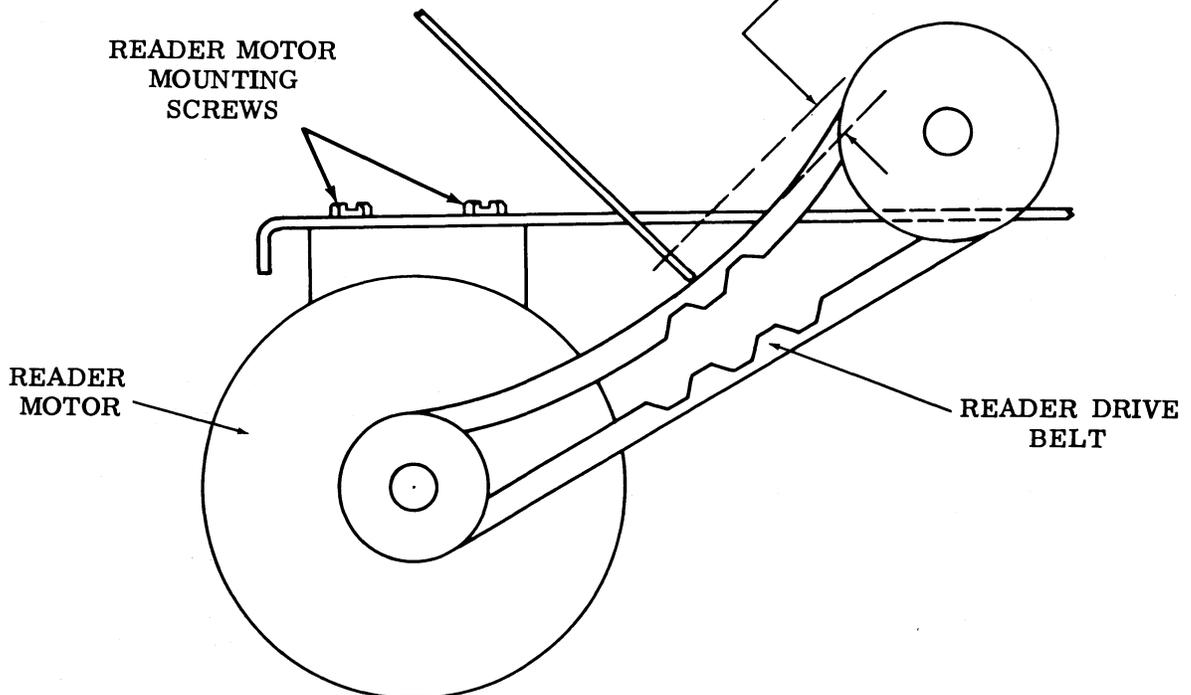

Figure 19 - Reader Drive Belt Tension
3.08 To replace the reader, reverse the removal procedure. Adjust the position of the reader motor to the left in the reader mounting bracket until a deflection of $3/8$ to $5/8$ inch is obtained when a 5-ounce force is applied to the center of the belt, then tighten the four reader motor mounting screws (Figure 19).
3.09 To remove the reader motor from the reader mounting bracket, proceed as follows (Figures 19 and 20).